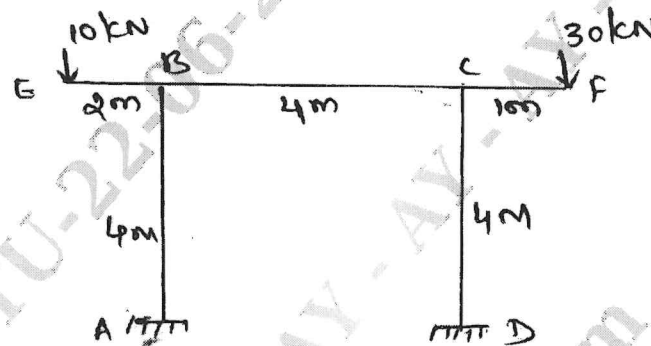

Fig.Q8
- Q.8 Analyze the frame shown in Fig.Q8 by Slope-Deflection method. Draw BMD. 20 L4 CO4